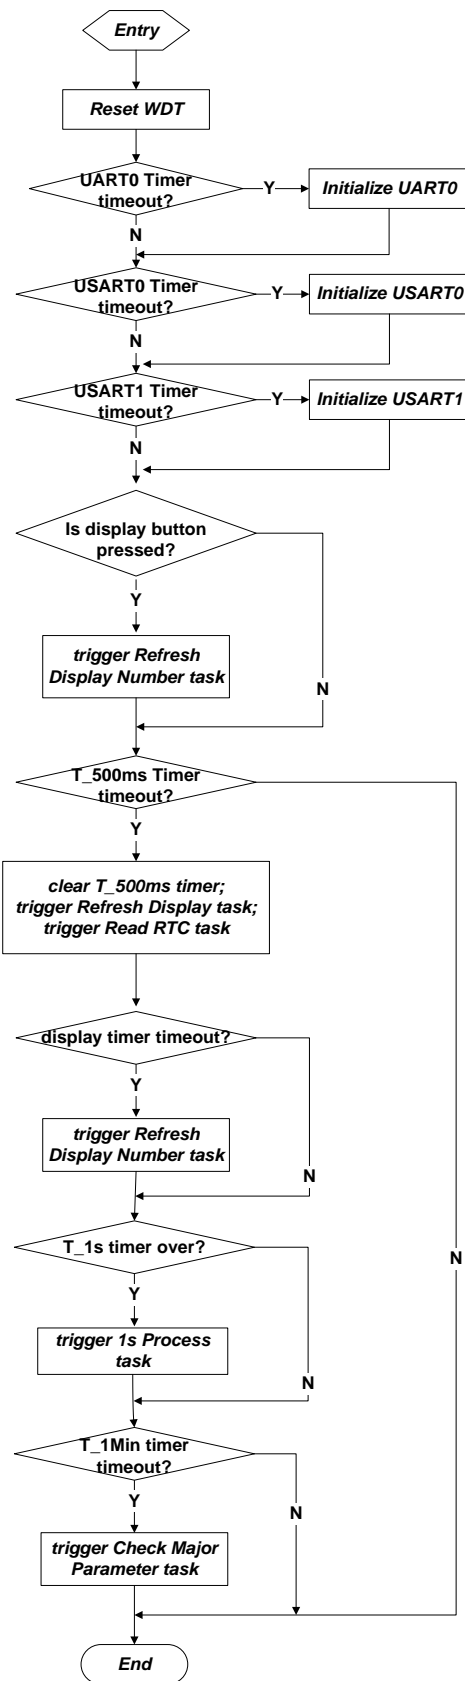

Figure 3-4 Timer Process Flow Chart
- Perform the task related to timeout of any timer. Table 3-3 shows different timers and Figure 3-4 shows the timer process flow chart.